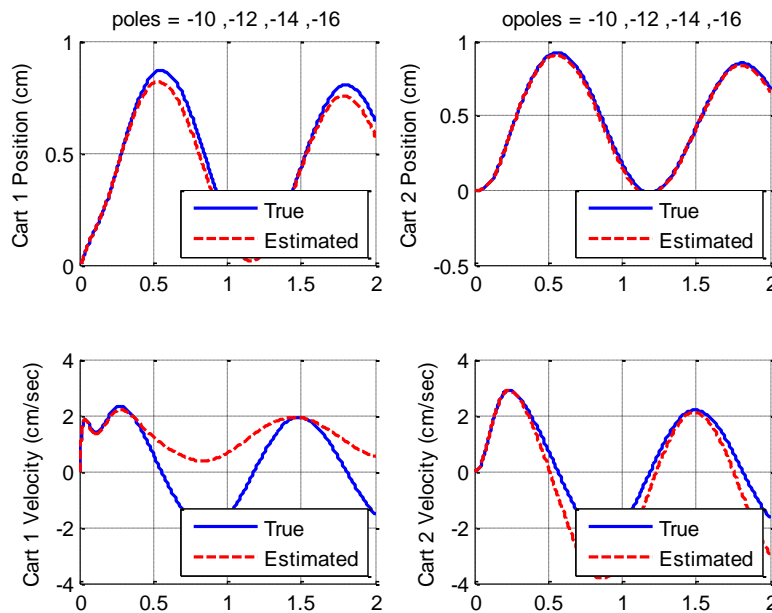

Figure 14: Full order observer for a 2DOF system with a bad model
5. Now we will try and observe what happens when there is a difference between our model and the real system. Modify the observer system in the model (.mdl) file, so the A matrix is called AA. Just before you simulate the model file, enter the command **AA = A*1.01**. Note in Figure 14 that the estimated state for cart 1 is not as accurate and the system is almost marginally stable.